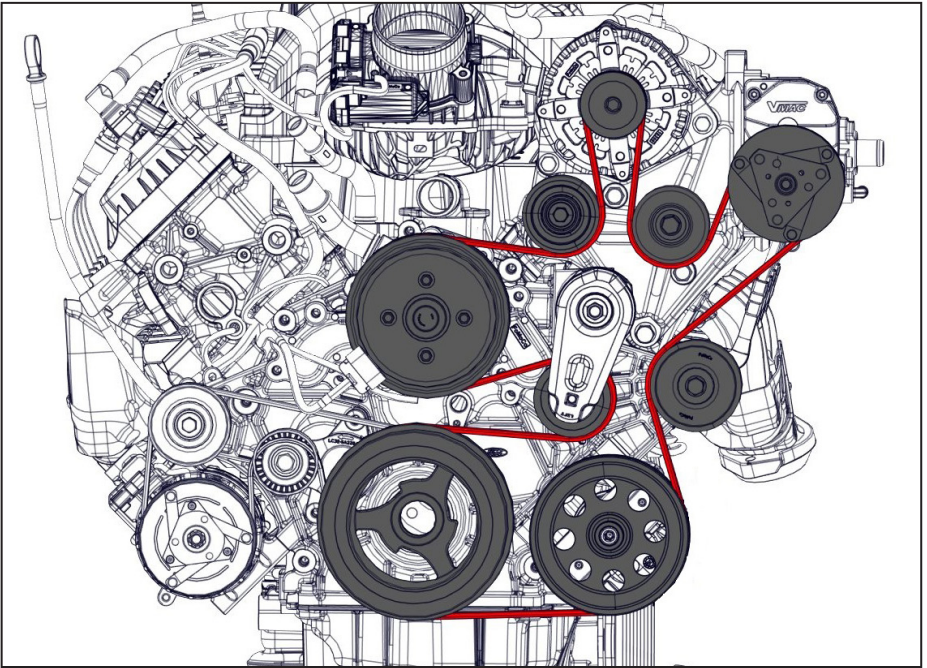

Figure 11 — VMAC FEAD belt routing
- Install and tension the VMAC FEAD belt (Figure 11).